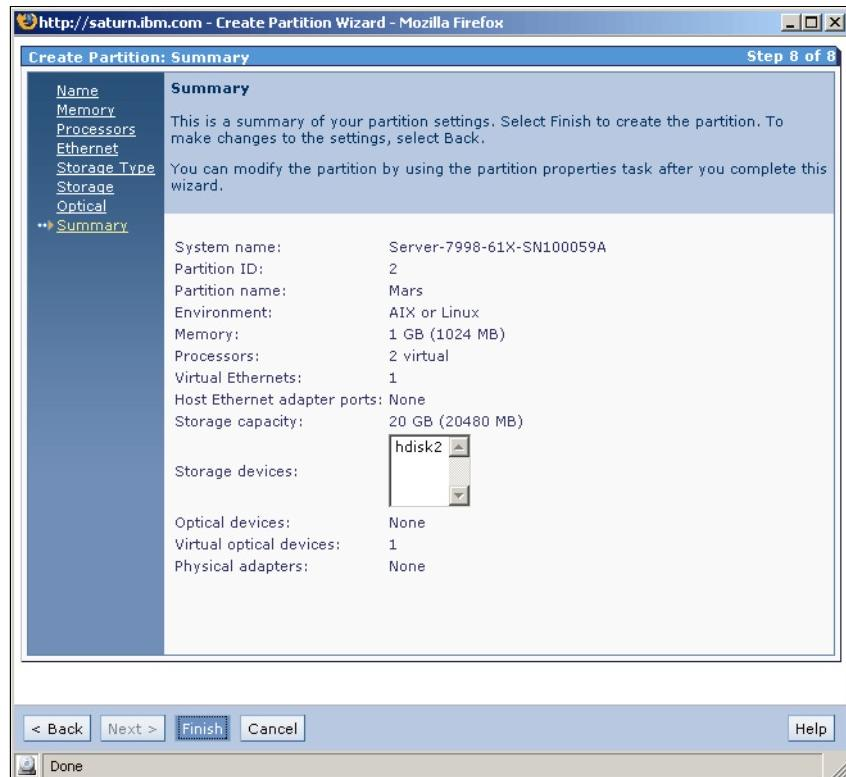

Figure 6-25 Create partition - summary
14. Verify your setting and click **Finish** to create a partition with the settings you defined. See Figure 6-25.